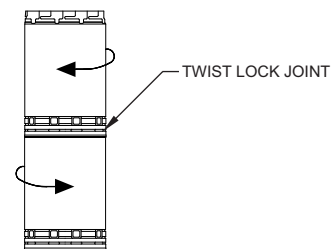

FIG. 3a
6. Install Temp Guard chimney sections starting at the TGCSP. Secure the sections by pushing together and twisting until stop-locked (See **FIG. 3a**). Additional chimney sections may be added to maximum height of 60 feet. 14", 16" and 18" are installed flange to flange, as illustrated on page 6. At each additional ceiling, a firestop (TGFSa) is required. Insert the TGFSa into the joist area prepared in step 5. Continue this process for each floor level until the area above the attic.